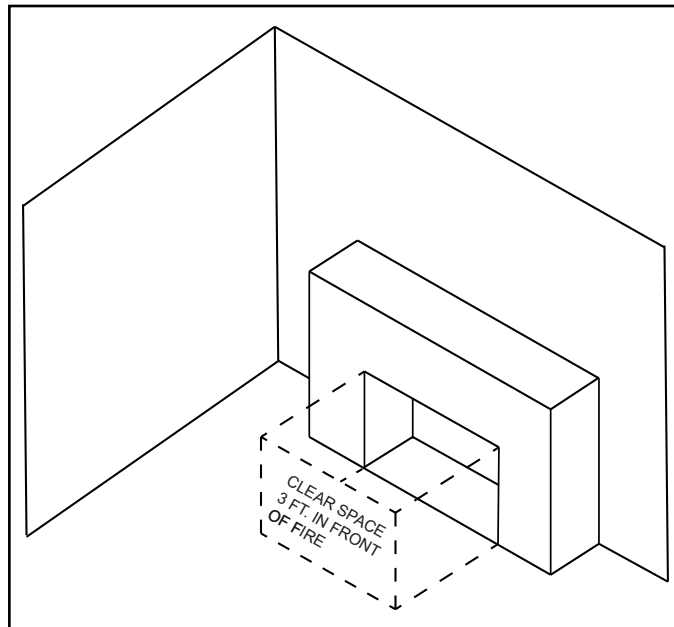

Figure 3.1 Clear Space Requirements
**⚠ WARNING! DO NOT place combustible objects in front of the appliance.** High temperatures may start a fire. See Figure 3.1.